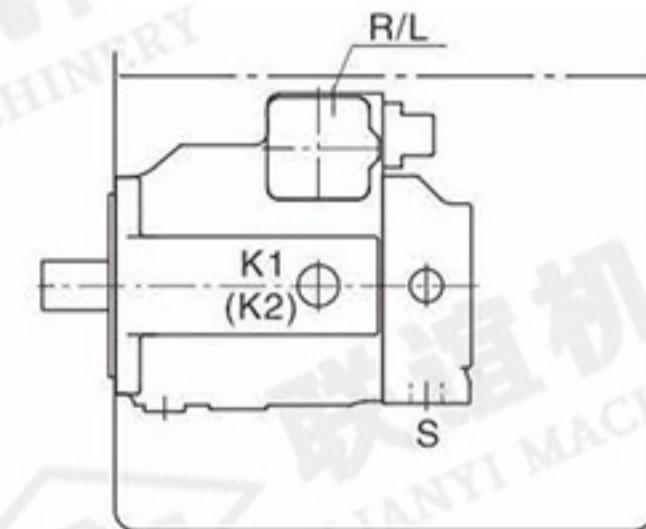

图3
a) 当油箱的最低液面与泵的上端等高或更高, 泄油口和《S》口可开放(见图3)。
When the minimum level in the tank is as same as or higher than the upper end of the drain port and port S can be open (see Figure 3)